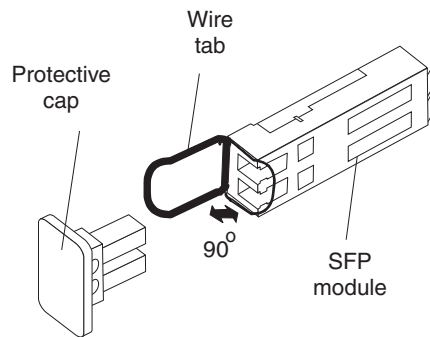

Figure 33. Unlocking the SFP module latch - wire variety
- For SFP modules containing wire tabs, unlock the SFP module latch by pulling the wire latch outward 90°, as shown in Figure 33 on page 37.